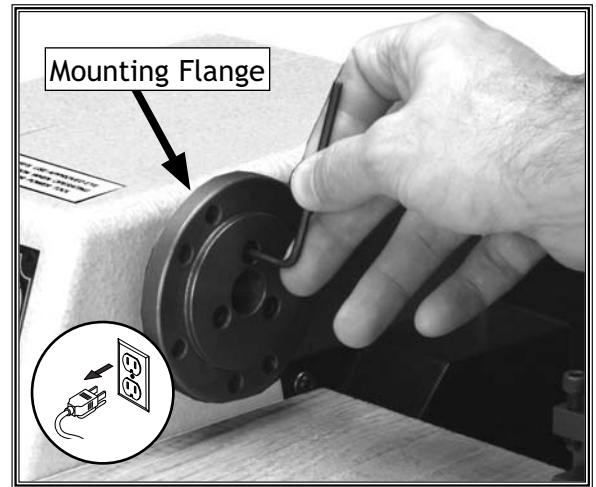

Figure 4. Tightening mounting flange.
3. Using the 3mm hex wrench, make sure that the three mounting-flange retaining cap screws are tight (see Figure 4).